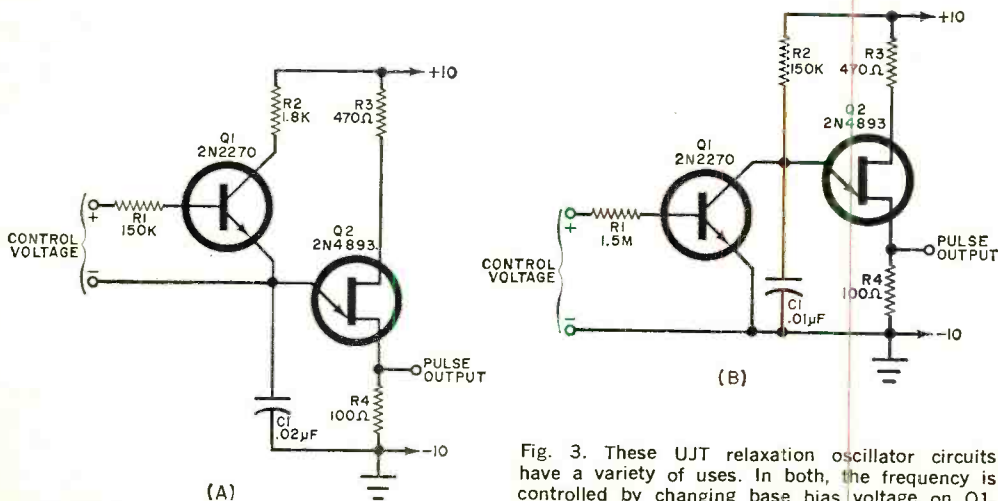

Fig. 3. These UJT relaxation oscillator circuits have a variety of uses. In both, the frequency is controlled by changing base bias voltage on  $Q1$ .
**Reader's Circuit.** Submitted by J. L. Elkhorne (76 Roselawn Drive, Independence, KY 41051), the voltage controlled relaxation oscillator circuits illustrated in Fig. 3 may be used in pulse generators, electronic musical instruments, SCR control systems, and specialized test equipment. With modifications, the circuits also may be used as analog-to-digital converters for telemetry and computer applications. Essentially similar, both circuits are adaptations of conventional UJT relaxation oscillator designs.